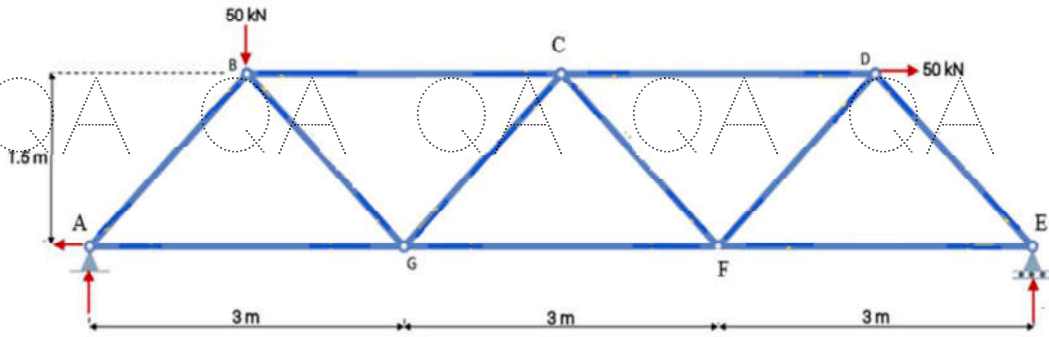

Figure 2
3. Find the forces in the members of the truss BC, BG and CG shown below by Method of joints figure 2. [10]